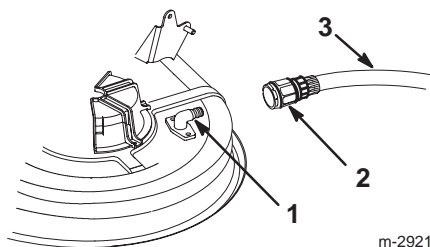

Figure 52
5. Attach the coupling (not included) to the mower washout fitting and turn the water on high (Fig. 52).